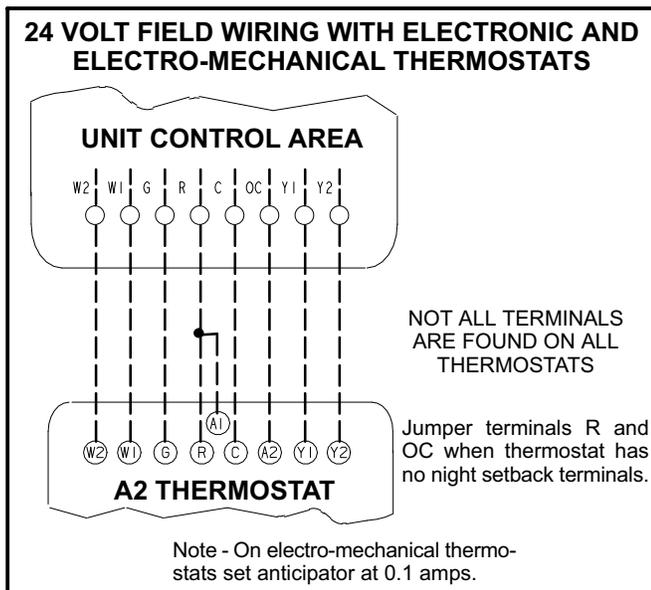

FIGURE 12
- 3- Connect thermostat wiring to leads in control panel. Wire as shown in figure 12 for electro-mechanical and electronic thermostats. If using other temperature control devices or energy management systems see instructions and wiring diagram provided by manufacturer.